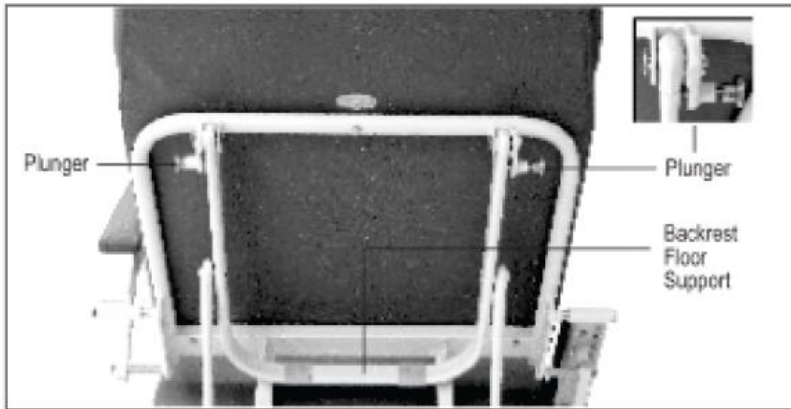

Figure 5
- To lower the Backrest, pull the two plunger mechanisms located on the rear side of the Backrest in an outward direction as shown in Figure 5. This will unlock the Backrest section. Hold and push the Backrest downwards (as shown by the arrow in Figure 4) till the Backrest floor support is stable on the floor (as shown in Figure 1)